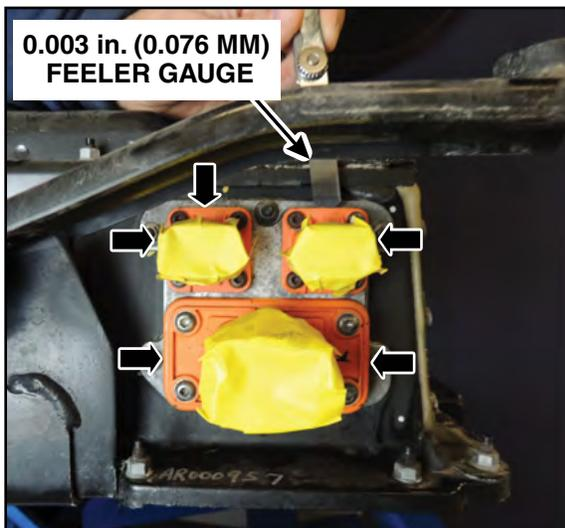

FIGURE 4a
- Attempt to insert a 0.003 in. (0.076 mm) feeler gauge between the aluminum plate and the top and sides of the two smaller high voltage connectors and the sides of the large high voltage connector. See Figures 4a and 4b.
- Does the feeler gauge fit between the aluminum plate and the connectors at one or more of the locations indicated in Figure 4a?